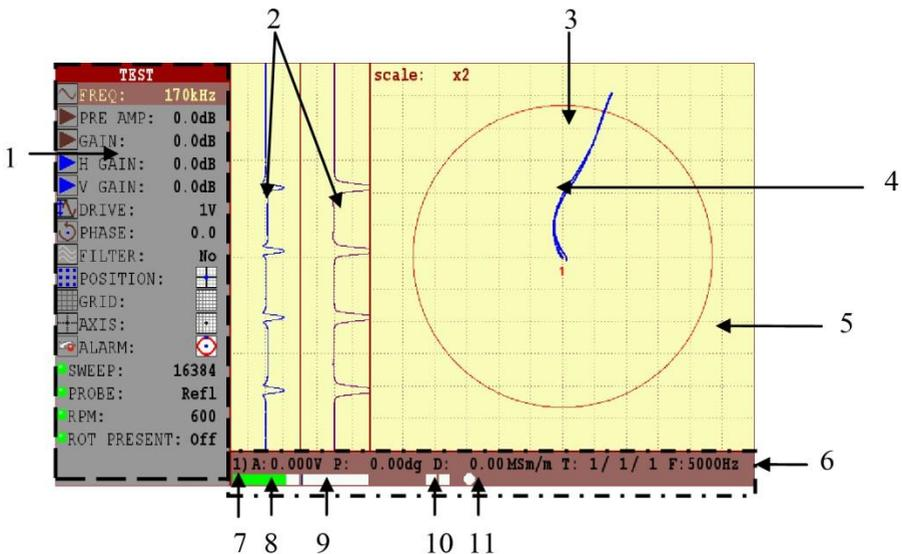

Fig. 8 – The Flaw Detector Interface
Lighting of a left overload indicator (pos. 10, Fig. 8) – indicates that unacceptably large amplitude signal came to the input of the receiving circuit.